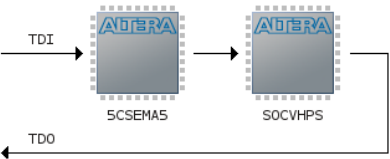

Figure 7-17. JTAG Scan Chain
39. You should now see 2 devices on the JTAG scan chain, as shown in Figure 7-17.
40. Right-click on the “5CSEMA5” device shown in Figure 7-17 and choose “Edit > Change File”. Then, select “DE1_SoC_demo/RTL/quartus/output_files/DE1_SoC_demo.sof” through the file browser.